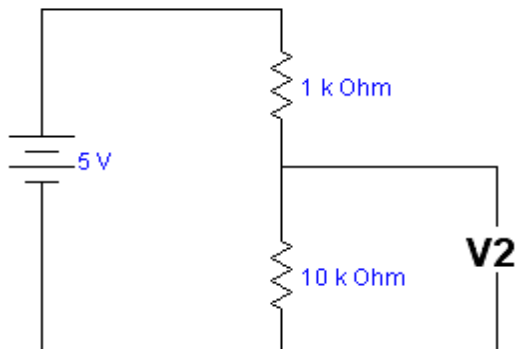

Figure 3
3. Calculate the current strength I and potential difference V_2 . Make a circuit like figure 3 and take measurements. Compare the calculation results with the measurements taken!